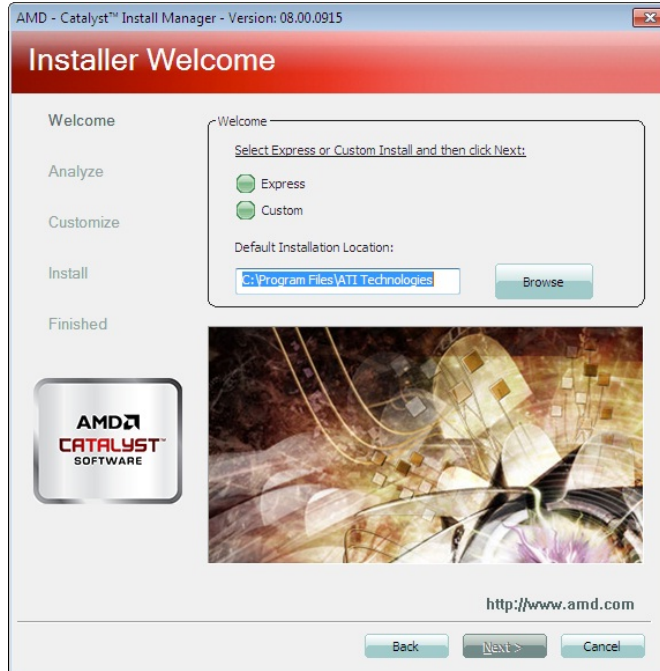

Figure 6-3: Select Express or Custom Install Screen
Step 6: The screen in Figure 6-3 appears.